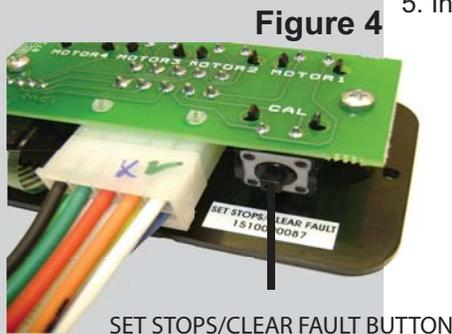
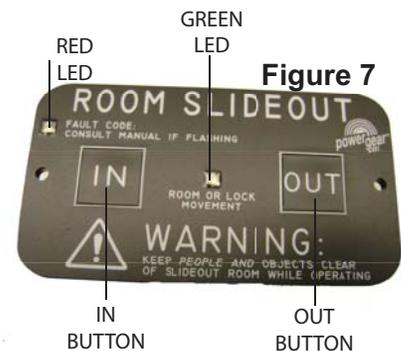

Figure 4
Figure 7
2. Determine location to mount touchpad (Figure 7). Location needs to be in view of slideout room and have a minimum depth of 1" inside the wall. Cut 2 7/8" wide x 1 3/4" high rectangular opening in wall to mount the touchpad.
3. Route and attach touchpad harness to where touchpad will be mounted. Mount touchpad with (2) screws after system has been programmed.
3. Remove the touchpad (Fig 7) from the wall.
4. Press and hold the “Set Stops/Clear Fault” button on the back of the wall touchpad for 5 seconds. (Figure 4). Both LED’s will light while the button is held down. (Figure 7)
- The GREEN LED indicates system operation. (Figure 7)
- The RED LED indicates a fault or problem with the system. (Figure 7) Refer to Fault Diagnostics Mode in this manual for additional information.
4. Press and hold the OUT button (Figure 7). If equipped with room locks, the room locks will first retract prior to room movement. Reference the GREEN LED indications above to determine component movement.
2. Press and hold the IN button (Figure 7) If equipped with room locks, the room locks will automatically extend when the room is fully retracted. Reference the GREEN LED indications above to determine component movement.
The control has the ability to detect several faults. When a fault is detected, the room movement will stop and the RED LED (Figure 7) will flash a number of times corresponding to a specific fault code listed below.
- **MAJOR** faults must be cleared by pushing the 'Set Stop/Clear Fault' button located on the back of the wall touchpad (Figure 4). This is done to alert the end user that there is a major problem with the system and to prevent damage to the slideout room.
- To determine the fault, count the number of GREEN and RED LED flashes on the wall touchpad (Fig 7) The number of flashes corresponds to a fault code number.
1. Remove the touchpad (**Fig 7**) from the wall
2. Press and hold the "Set Stops/Clear Fault" button on the back of the wall touchpad for 5 seconds (**Figure 4**). Both LED's will light while the button is held down. (**Figure 7**)
- b. Press the IN button on the front of the wall touchpad (Fig 7) until the room is fully retracted.